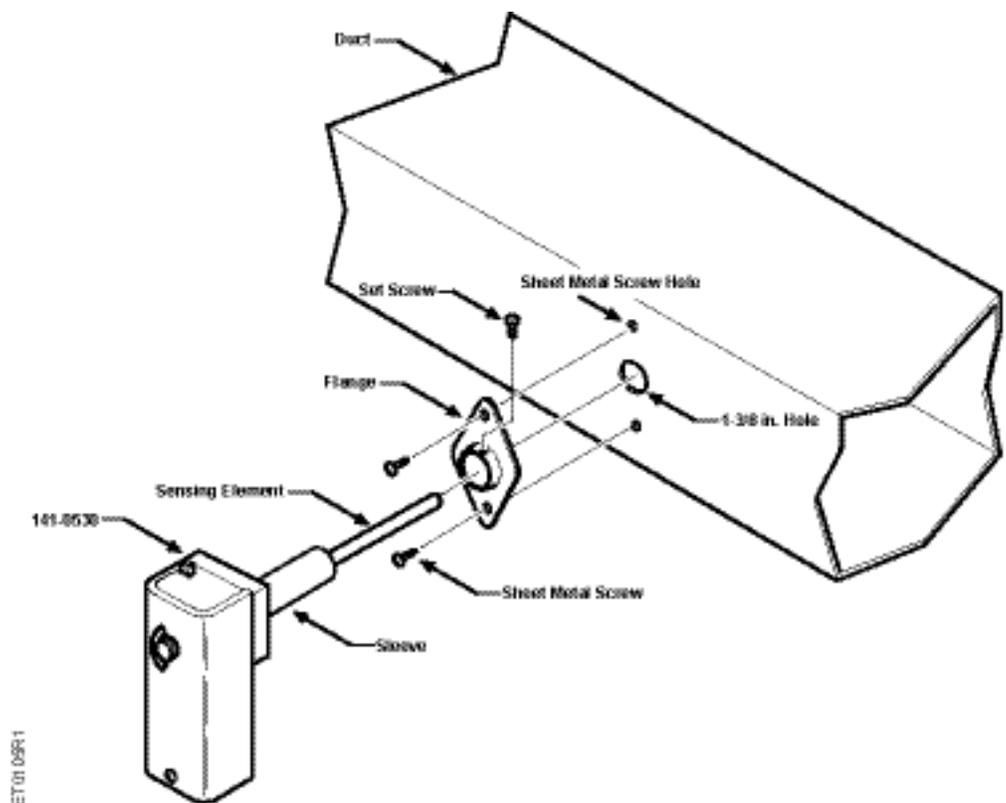

Figure 3. Installation.
Dimensions	See Figure 3
2. Drill (or cut) a 1-3/8 inch hole in the duct at the selected mounting location (see Figure 3).